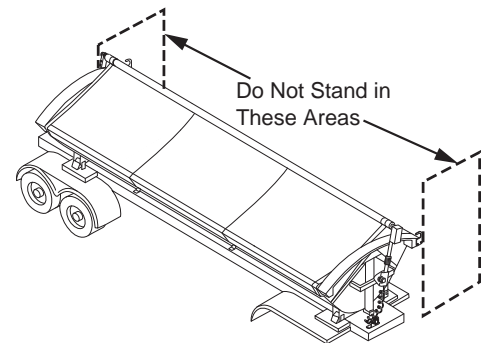

Figure 1
1) See Figure 1. Deploy the tarp to its complete covered position. Start by adjusting the front spring (white) in the front spring assembly. It may be helpful to unbolt the roll pipe adapter from roll pipe (3 - 3/8" Allen head bolts) as you may need to release a small amount of preset spring tension still applied to swing arm.
5) See Figure 1. Lift the swing arm back up and bolt to roll pipe.
- 1) See Figure 1.** Attach one end of the come-along to the front swing-arm (A), near the motor housing. Attach the other end of the come-along to the trailer on the side the tarp is anchored (B).
- 2) See Figure 1.** Attach another come-along between the rear swing-arm (C) and trailer (D).